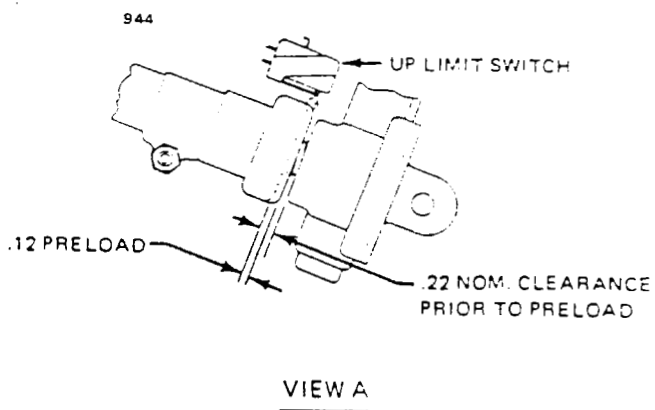

Figure 13-12. Condenser Air Scoop Installation
- b. Place the condenser and frame assembly to the fuselage frame mounting bracket and insert the (8) screws into the piano hinge.
- f. Seal all around forward cover panel (and aft cover panel if removed) with Permagum Bead No. 576 purchased from Prestolite Engineering Company. (See Figure 13-12.)
13-34. CONDENSER DOOR ACTUATOR. The actuator is on a bracket mounted between two bulkheads in the tail cone. It is coupled to the condenser assembly through a bellcrank mounted to a bracket on the bulkhead aft of the condenser. The actuator travel is controlled by two limit switches. Both the up and down switches are located on the actuator. Refer to Figure 13-12 for the switch locations.
13-35. CONDENSER ASSEMBLY RIGGING INSTRUCTIONS. (Refer to Figure 13-12.)
- a. Adjust open limit switch (5) to open the condenser door (8)  $5.00 \pm .50$  inches when measured from the leading edge of the door to the fuselage skin.
- c. With the door fully closed adjust the "CLOSED" limit switch (6) so that the actuator (1) travels an additional .12 of an inch after the door is fully closed, this is necessary to preload the mechanism. Refer to Figure 13-12, View A-A.